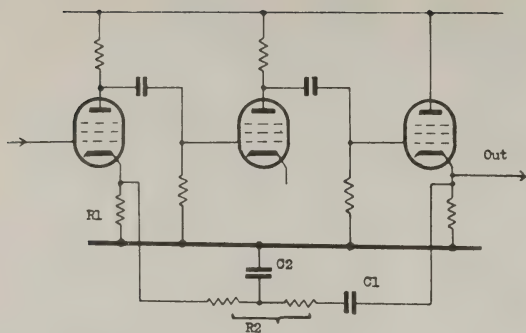

Fig. 3
H.F. response can also be controlled by judicious use of NFB; a small capacitor of the order of a few mmfd across  $R_2$  will apply more feedback at high than at mid-frequencies, tending to cause the frequency response to fall at high frequencies. If as more usually happens, a lift at H.F. is required, the feedback may be shorted to earth at H.F. by a small capacitor, best done by splitting  $R_2$  in two, and putting a small C to earth from the mid-point, as in Fig. 3. Splitting  $R_2$  so that  $C_2$  is  $1/3$  of the way along may give better results.